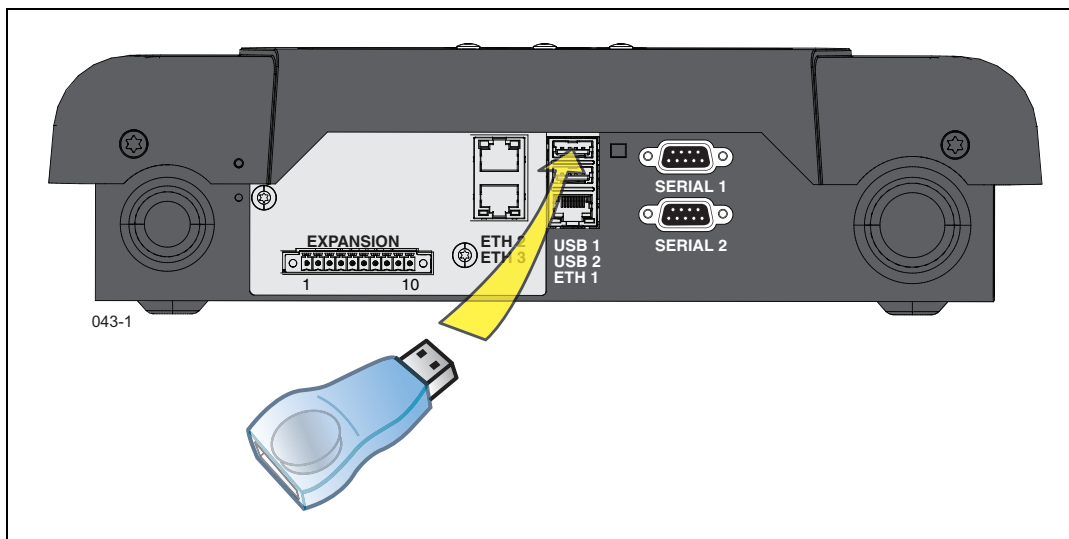

Figure 19. Insert The iButton Adapter Thumb Drive Into A USB Port On The TLS-4 Console
2. Insert the USB Adapter into a USB port in the bottom of the console as shown in Figure 19.